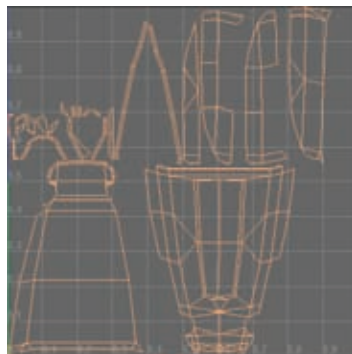

Figure 4.53
1. Start first with the hood. Select the low-resolution hood mesh and apply an Automatic Mapping command from the Create UVs menu. You should get a result similar to Figure 4.53.